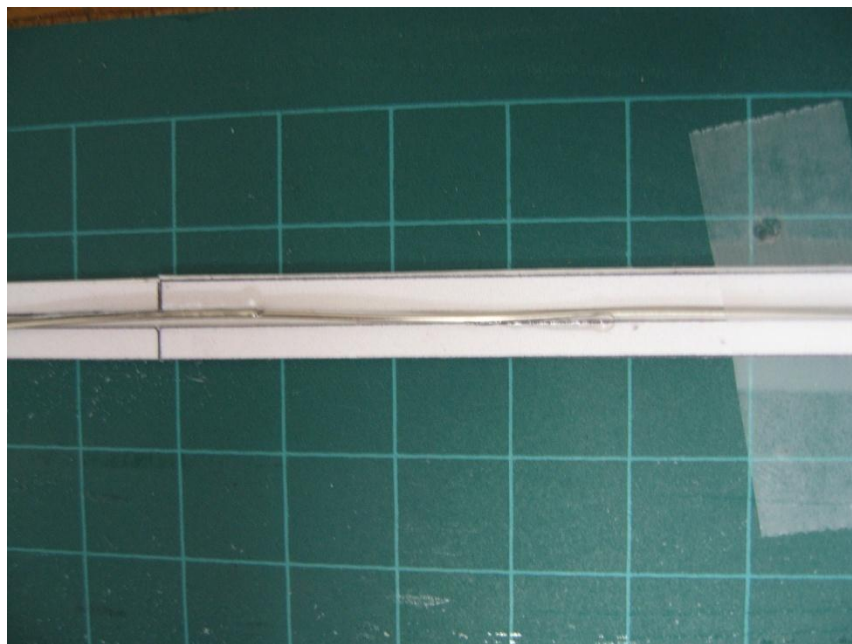

Fig 22: Steel wire
4. Once all the strips are attached, superglue the wire inside the groove. As you can see in Fig 22, I use tape to hold things in place.